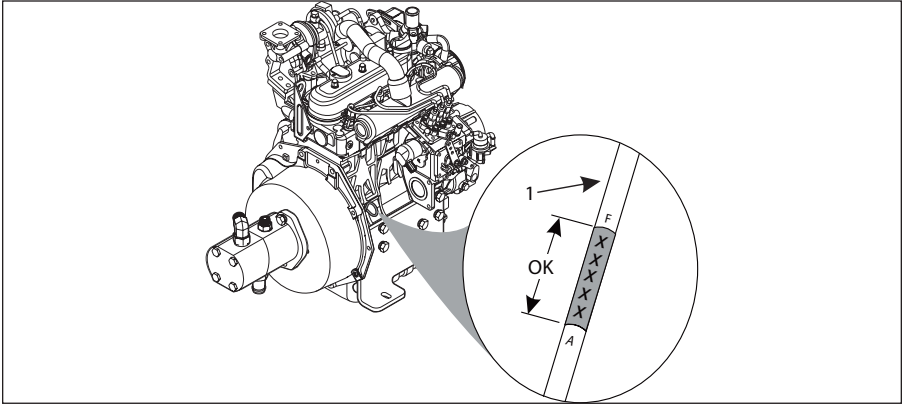

Figure 4-2 Oil Level Check
- b. Pull out the dipstick (Item 1, **Figure 4-2**) and look for the “FULL” line.